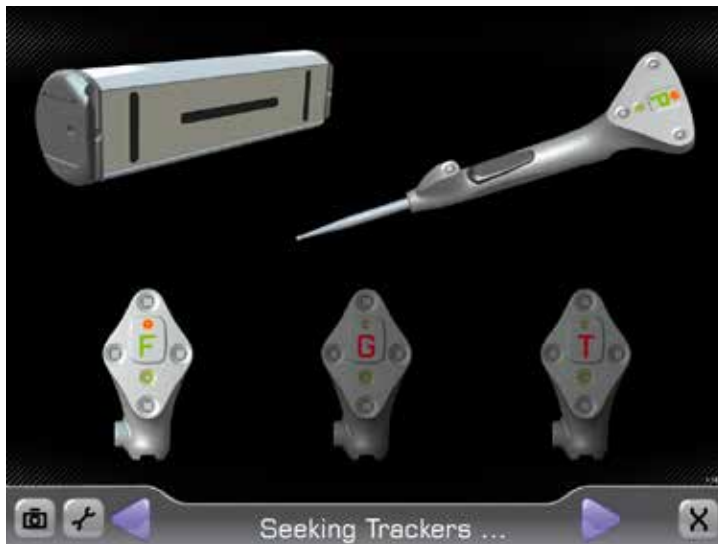

Figure 5
The *Seeking Tracker* screen is displayed (Figure 5). Insert batteries, the positive side first, into the four trackers ProbeTracker (P), Femoral Tracker (F), GuideTracker (G) and TibialTracker (T) (Figure 6).